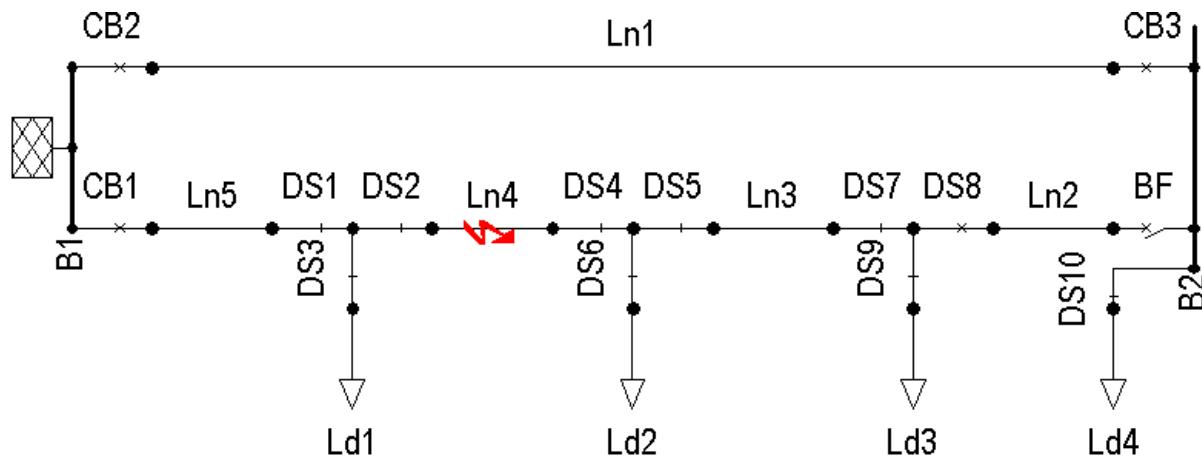

Figure 45.1.1: Short-Circuit on Ln4
Figure 45.1.1 shows a simple network containing four loads, several circuit breakers (CB) and disconnectors (DS) and a back-feed switch (BF).